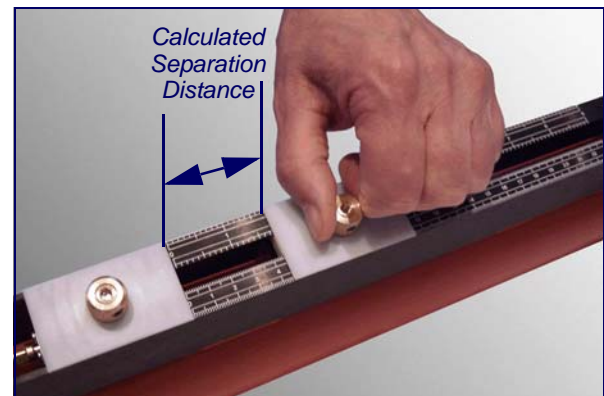

Figure 2.11
8. Position the upstream transducer at '0' on the ruler scale and lower the transducer onto the pipe by turning the thumb screw anti-clockwise, as shown in Figure 2.11.